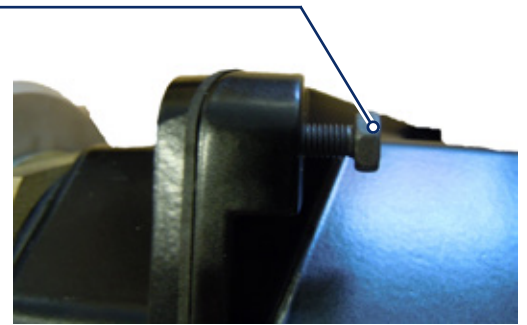

Fig. 18
- ▶ Remove cover as shown in figure 18.